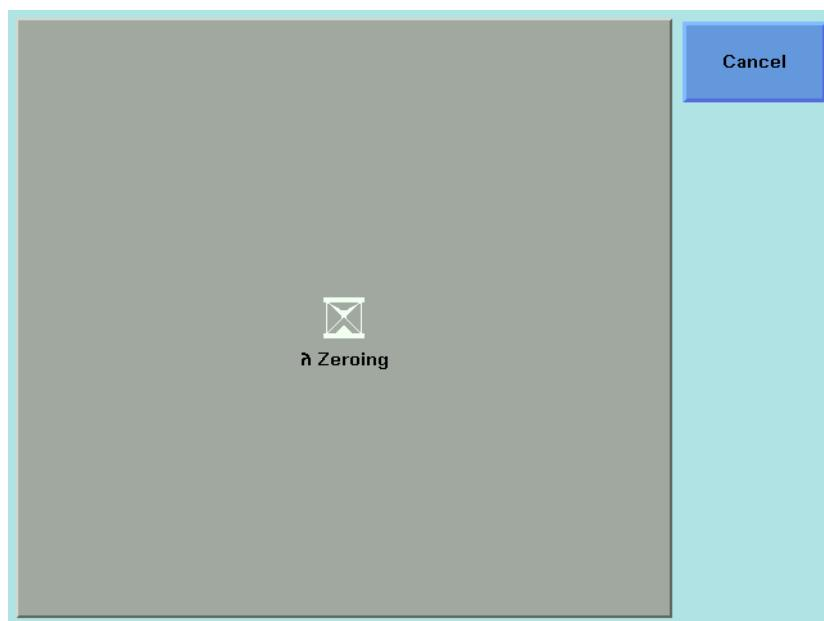

Figure 82  $\lambda$  Zeroing Screen
- 2 Move to  $\langle\lambda$  Zeroing> and press [OK]. You will see the screen in Figure 82 .